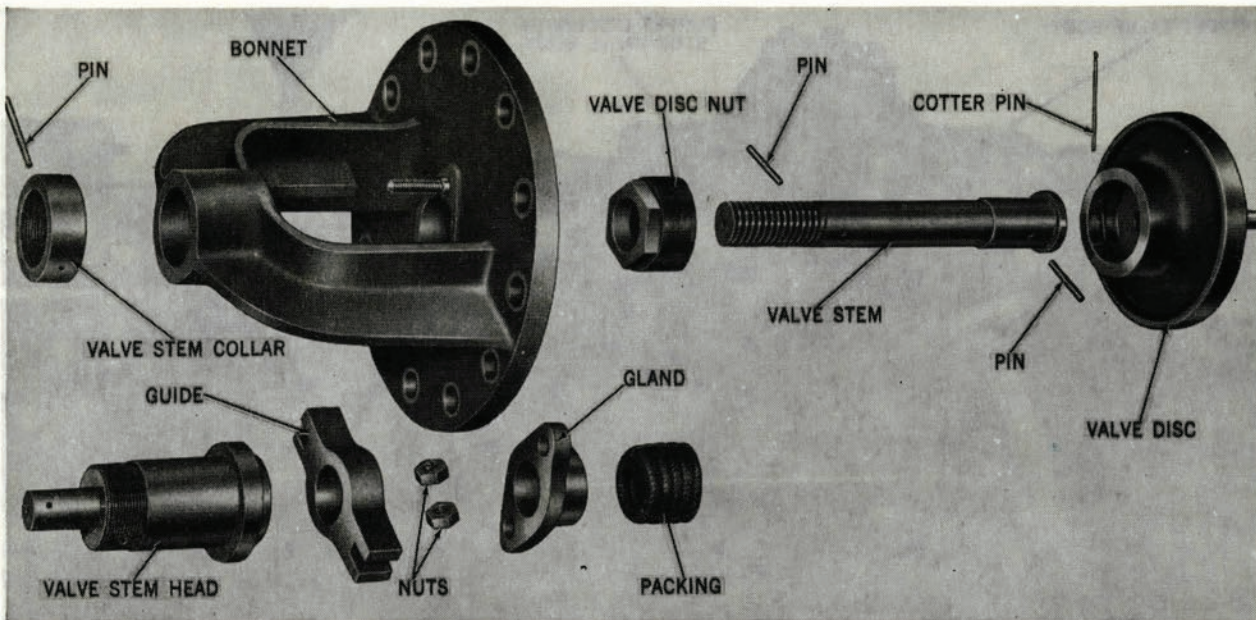

Figure 190—Poppet Discharge Stop Valve Disassembled.
**Poppet Discharge Stop Valve.** Both sides of the poppet discharge stop valve body are flanged. The muzzleward flange connects to the poppet discharge pipe, and the breechward flange to the stop valve bonnet which supports the working part of the valve, figure 190. The stop valve is operated by a handwheel, and by shafting supported in a bracket on the check valve cover.